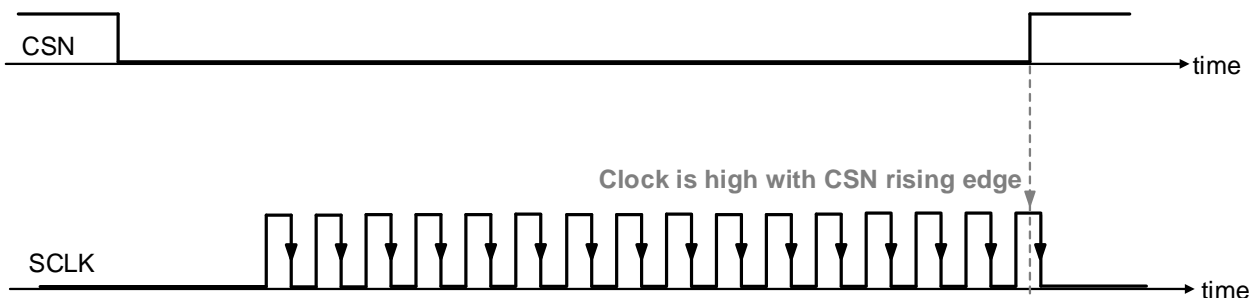

Figure 15. Clock Polarity Error
- a clock polarity error is detected (see Figure 15 Case 2 and Case 3): the incoming clock signal was High during CSN rising or falling edges.